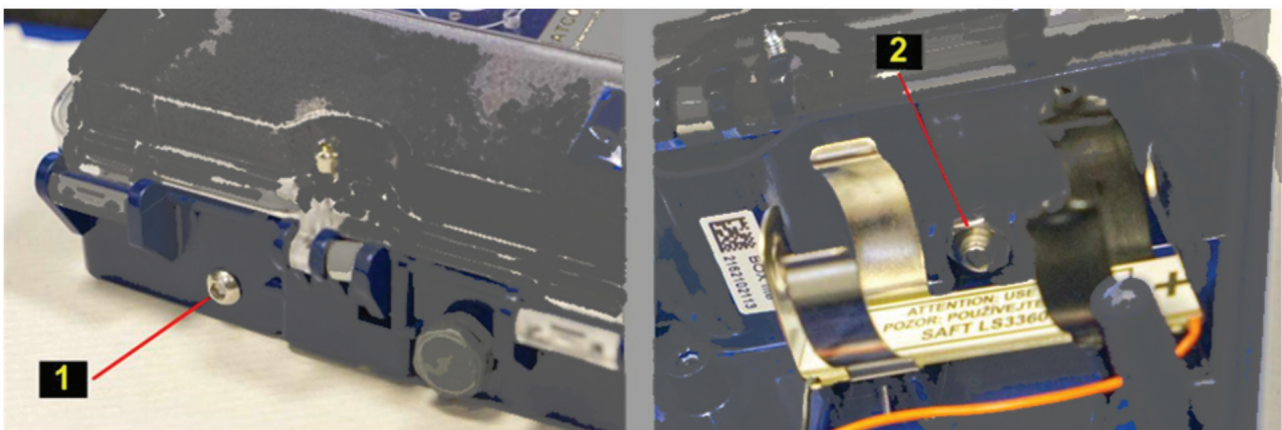

Fig. 41 Blanking plug for the modem antenna outlet
3. Removing the plug for the antenna connector hole (Fig. 41)